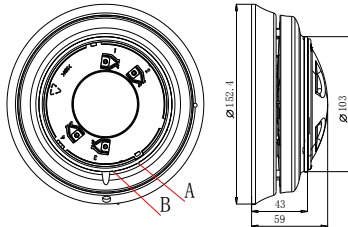

Fig. 1
Terminals of the sounder base are shown in Fig. 1.
- 4 If the sounder base comes with a cover, align the orientation mark on the cover to mark A of the sounder base (Fig. 1), and rotate the cover clockwise to B. If it's used as detector base, remove the cover and install the detector on it with the same method.